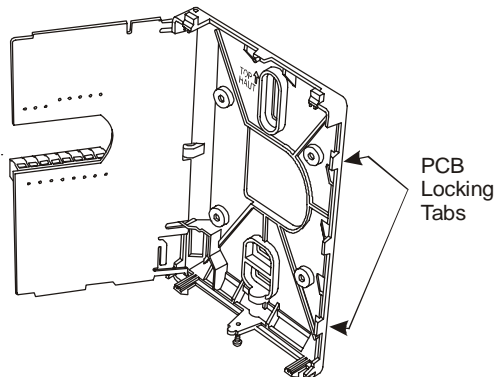

Figure 2: Opening the Thermostat PCB
3. Carefully pull the locking tabs on the right side of the thermostat mounting base and unlock the Printed Circuit Board (PCB). Open the PCB to the left as illustrated in Figure 2.